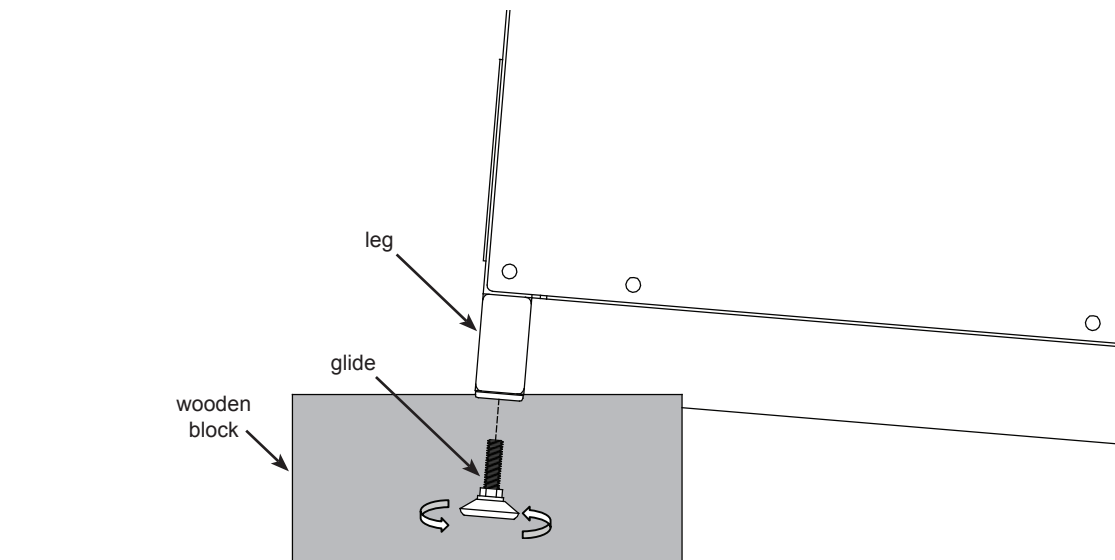

Figure 2
- Carefully lift one side of the desk and place a short wooden 4x4 or 2x4 block (or equivalent support) under the leg. This may require two people. **Figure 2.**